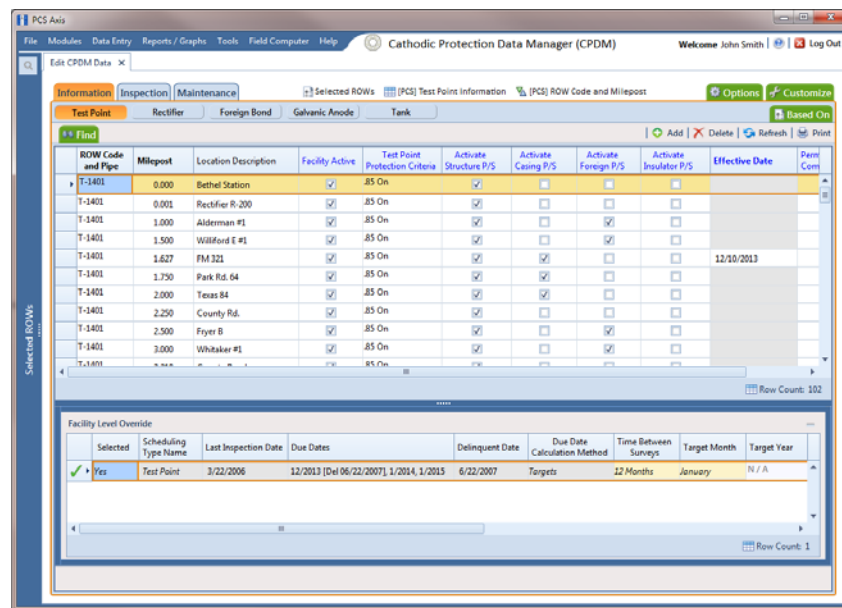

Figure 8-12. Test Point Information Data Entry Grid
- 3 Click the **Test Point** button , then the **Information** tab  to open the *Test Point Information* data entry grid (Figure 8-12, page 362).